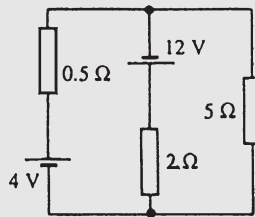

Figure 13.58
**Problem 15.** Determine the current in the  $5 \Omega$  resistance of the network shown in Fig. 13.58 using Norton's theorem. Hence find the currents flowing in the other two branches.